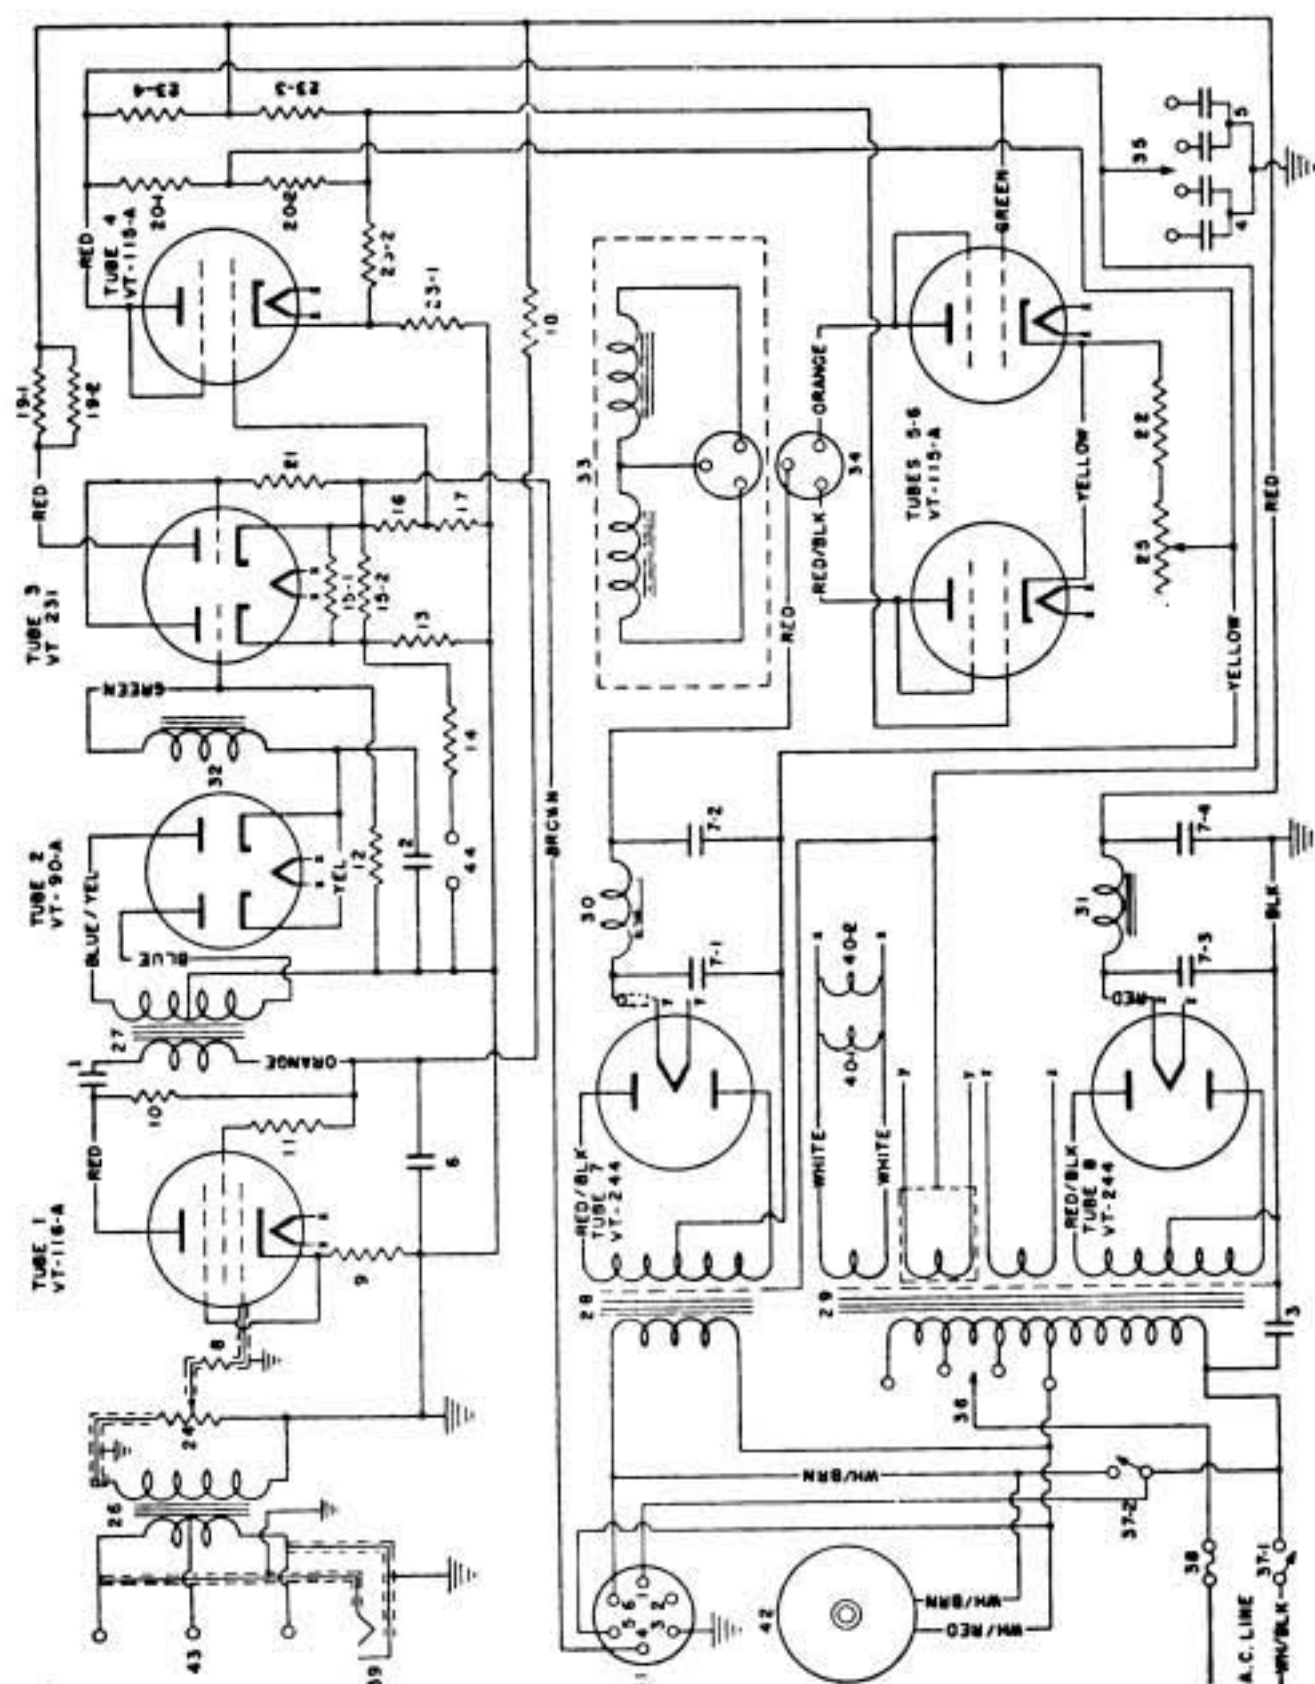

Figure 7—Recorder BC-1016, Schematic Diagram.
Note: The reference numbers in this section will be found on FIGS. 7, 8, and 9.
23. ELECTRICAL CIRCUIT.—FIG. 7 is a schematic diagram of the recorder with appropriate legends describing the circuit components and giving their part numbers. This same diagram is also attached to the bottom plate of the chassis. FIG. 19 is a wiring diagram of the recorder with explanatory captions. TABLE 1 shows normal approximate voltages between the socket pins as indicated on a 20,000 ohm per volt voltmeter such as analyzer, Weston 772 or equal, part of RC-68 stock 3F 1772. The readings are taken with (1) normal line voltage, (2) MASTER-ON and MOTOR-ON switches at ON, (3) SLOPE and THRESHOLD controls full on, (4) DISCRIMINATOR control at 0 (5) audio test oscillator adjusted to 1000 cycles connected to the input terminals and alternately turned on and off.